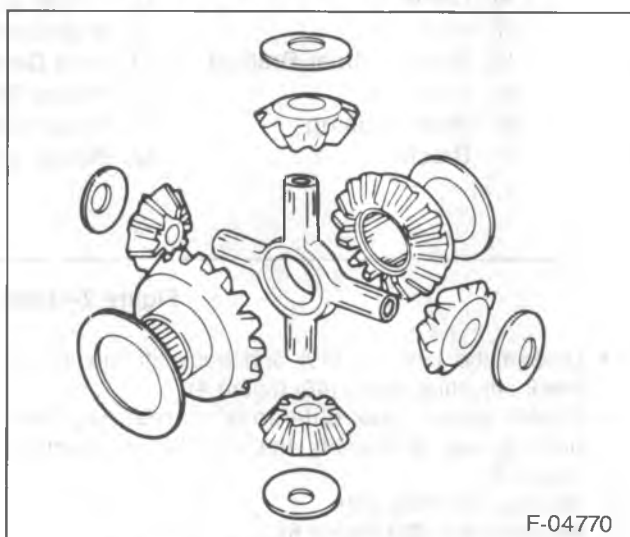
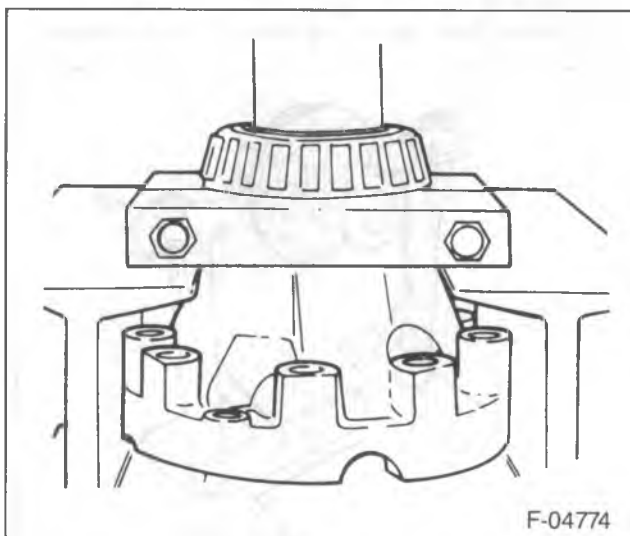

Figure 9—Differential Components
Figure 10—Removing the Differential Side Bearing
10. Side gears (43) and thrust washers (38) (figure 9).
11. Pinion gears (41) and thrust washers (42).
12. Differential pinion spider (40).
13. Ring gear nuts (34), washers (35), and bolts (39).
14. Ring gear (37) from the differential case.
15. Differential side bearings (33) using J 22912 and an arbor press (figure 10).